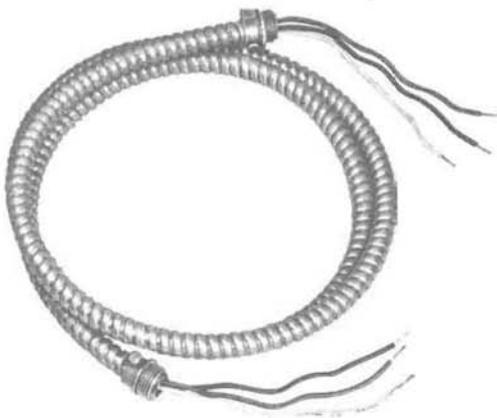

Fig. 6—KS-19425, List 24 Power Cable Assembly
- (c) *KS-19425, List 24 power cable assembly (Fig. 6)*: Used to bring power from the KS-19426, List 17 circuit breaker box to the